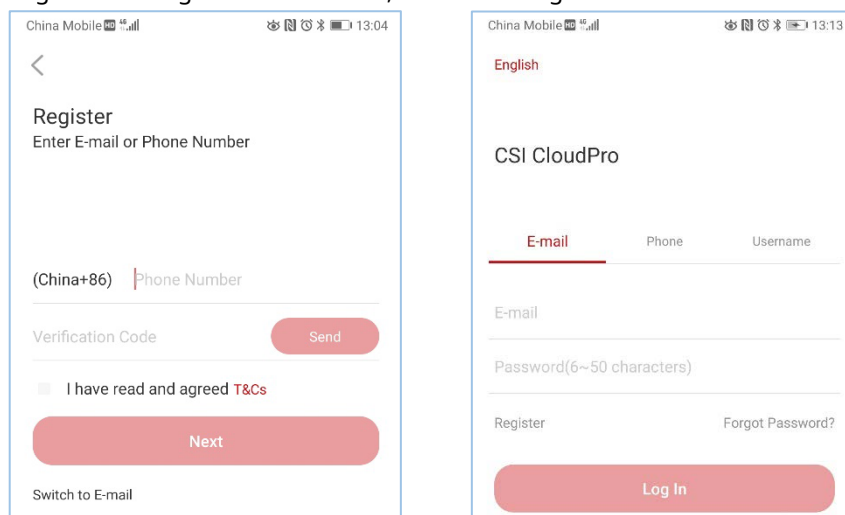

FIG. 9.2 Register an Installer Account
- 1) System supports E-mail or phone registration, as per FIG.9.2.